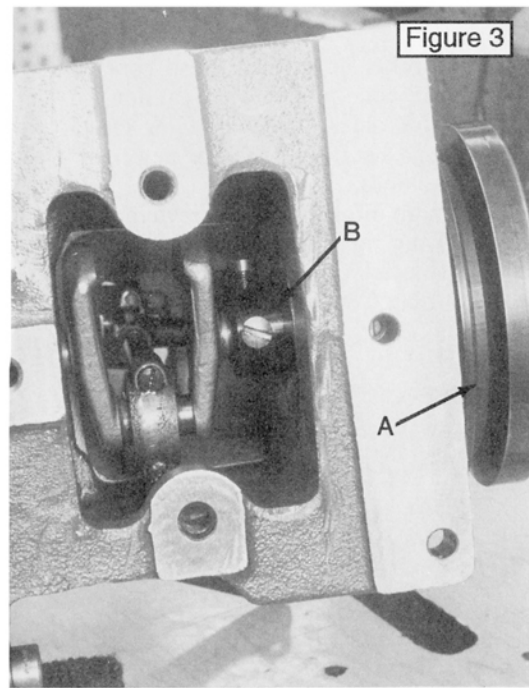

Figure 3
3) Check the crankshaft for end shake. If some shake is detected, first check the hand wheel pulley attaching screw for tightness, **A, Figure 1 3**. Then check collar **B, Figure 3**. Adjust as needed.